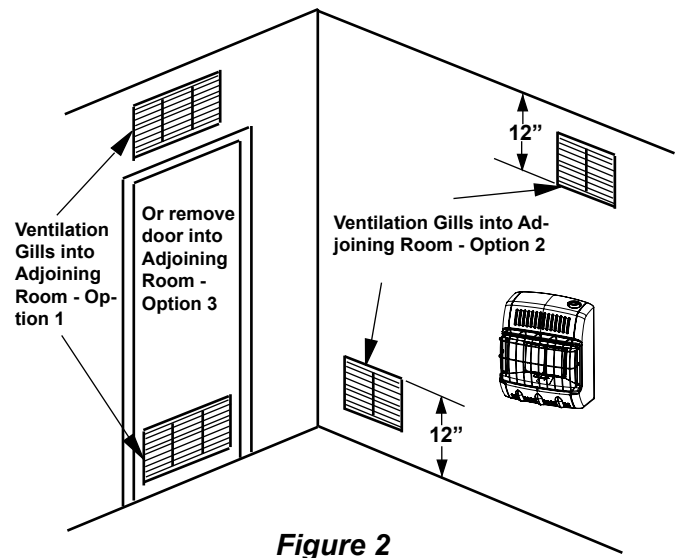

Figure 2
- Rework worksheet, and the space of an adjoining room. If the extra space provides an unconfined space, remove door to adjoining room or add ventilation grills between the rooms. See Ventilation Air From Inside Building (Fig. 2)
This fresh air would come from an adjoining unconfined space. When ventilation to an adjoining unconfined space, you must provide two permanent openings: one within 12" of the ceiling and one within 12" of the floor on the wall connecting the two spaces (see options 1 & 2 of figure 2). You can also remove door into adjoining room (see option 3, fig 2). Follow the National Fuel Gas Code NFPA 54/ ANSI Z223.1, Section 5.3, Air for Combustion and Ventilation for required size of ventilation grills or ducts.